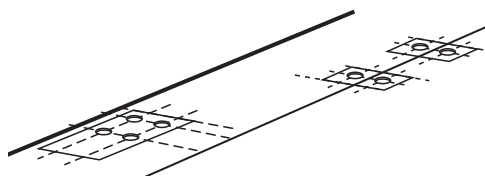

Figure 21 - Drilling the Bolt Holes
6. Using the guide holes, drill completely through the ambulance floor and backing plates using a $\frac{5}{16}$ " diameter drill bit. These larger holes are for the mounting plate bolts. Repeat for each guide hole (Figure 21). There are two drilling points for each antler mounting plate, and four drilling points for each rail mounting plate.